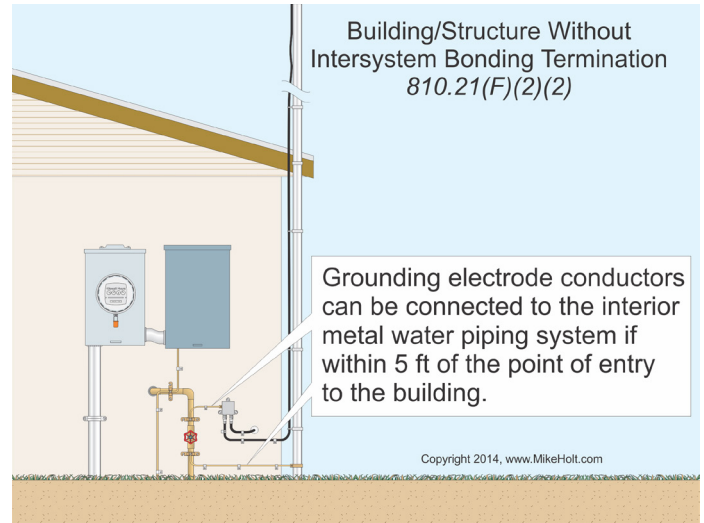

Figure 810-17
- (1) Building grounding electrode system [250.50].
- (2) Interior metal water piping system, within 5 ft from its point of entrance [250.52(A)(1)]. Figure 810-17
- (3) Accessible means external to the building, as covered in 250.94.
- (4) Nonflexible metallic service raceway.
- (5) Service equipment enclosure.
- (6) Grounding electrode conductor or the grounding electrode conductor metal enclosure.